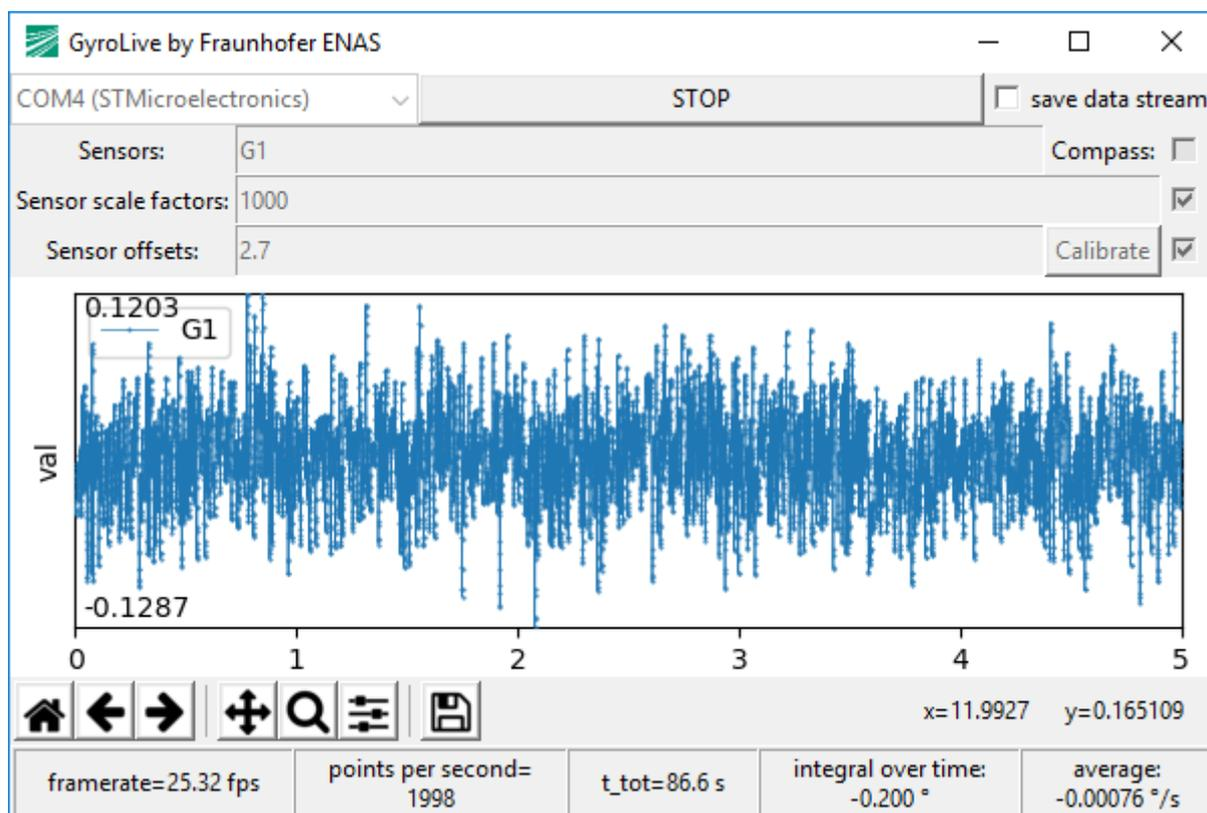

Figure 3: screenshot after starting the readout with offset correction and scaling active
- iv. To stop the readout, press 'STOP' (see Figure 3)